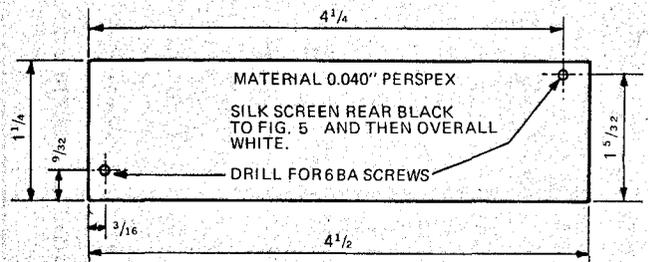

Fig. 3a. Bottom dial glass (silk screened on rear).
- 1 dial scale as per Fig. 3a and 3b